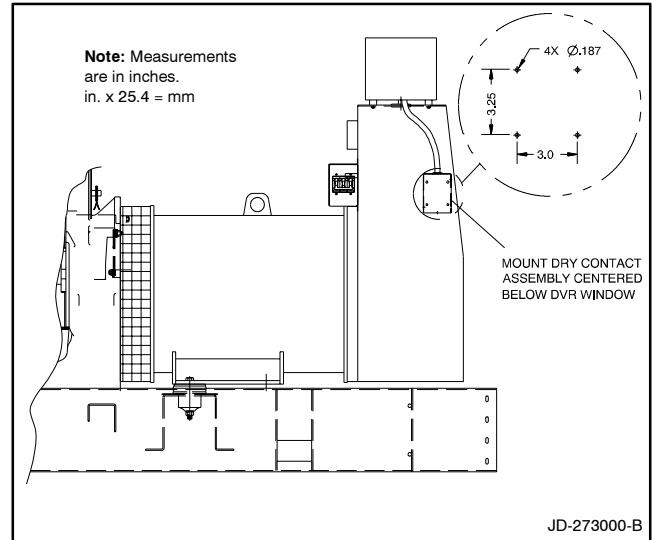

Figure 7 Junction Box Drilling Information (350/400 kW)
- 3.2.1 Drill four 4.7 mm (0.187 in.) dia. holes in the junction box as shown in Figure 7.
- 3.2.4 Mount the single-relay dry contact box (A-273945) to the junction box using eight nuts (X-6210-4) and four vibromounts (259919). See Figure 7 for the mounting position.